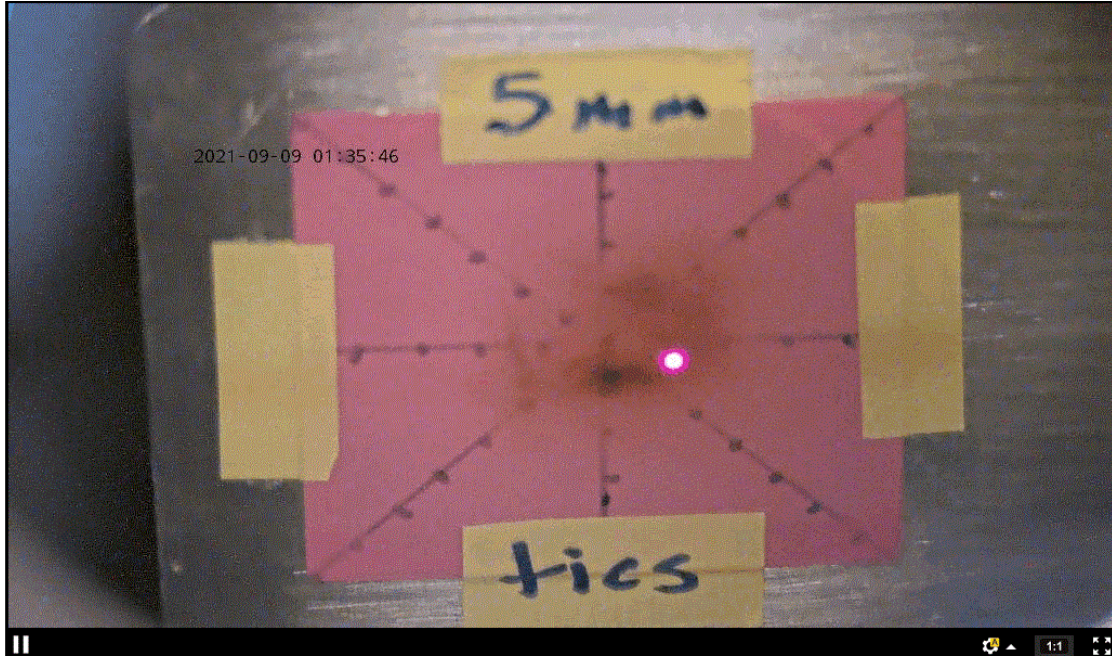

Figure 3: Beam spot on the Faraday cup viewer.
- a. make sure beam is clearly visible on the downstream viewer, use Chromox screen¹. Beam should be within 10 mm (2-tick marks) around the center (see Figure 3)
- a. make sure beam is clearly visible on the downstream viewer, use Chromox screen². Beam should be within 10 mm (2-tick marks) around the center (see Figure 3)